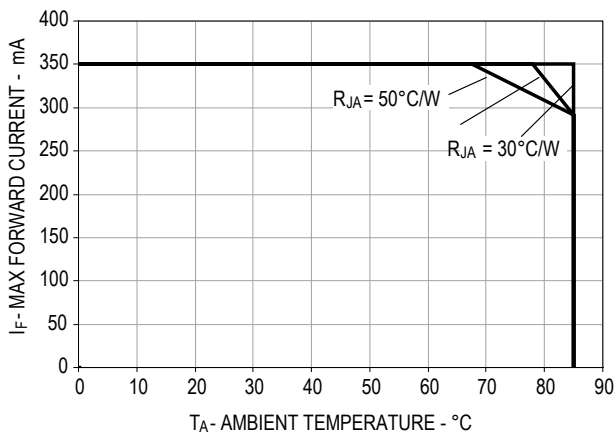
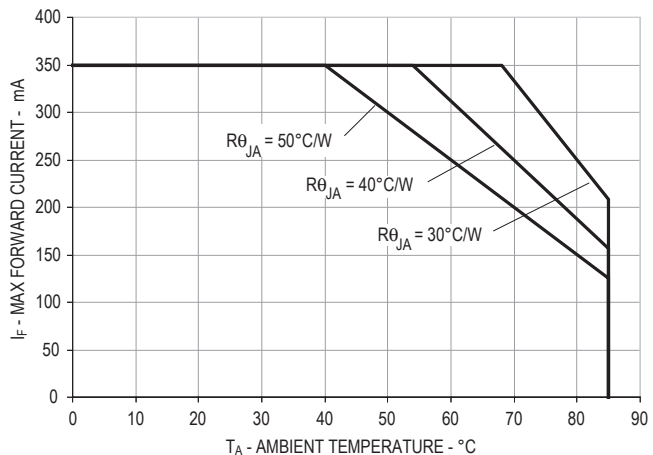

Figure 5. Maximum forward current vs. ambient temperature for AllnGaP
Figure 11. Maximum forward current vs. ambient temperature for InGaN
1. DC forward current – derate linearly based on Figure 5 for AlInGaP & Figure 11 for InGaN.